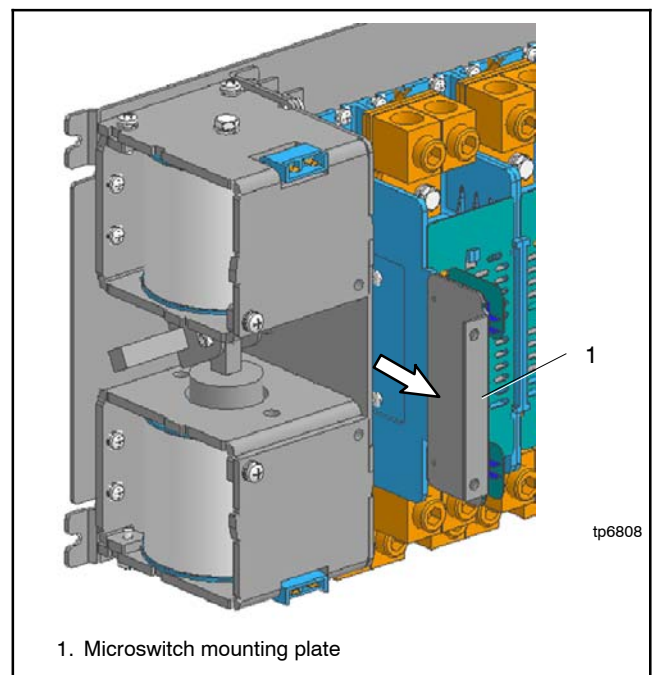

Figure 7-28 Microswitch Mounting Plate
2. Move the microswitch mounting plate toward the direction of arrow for removal. See Figure 7-28.